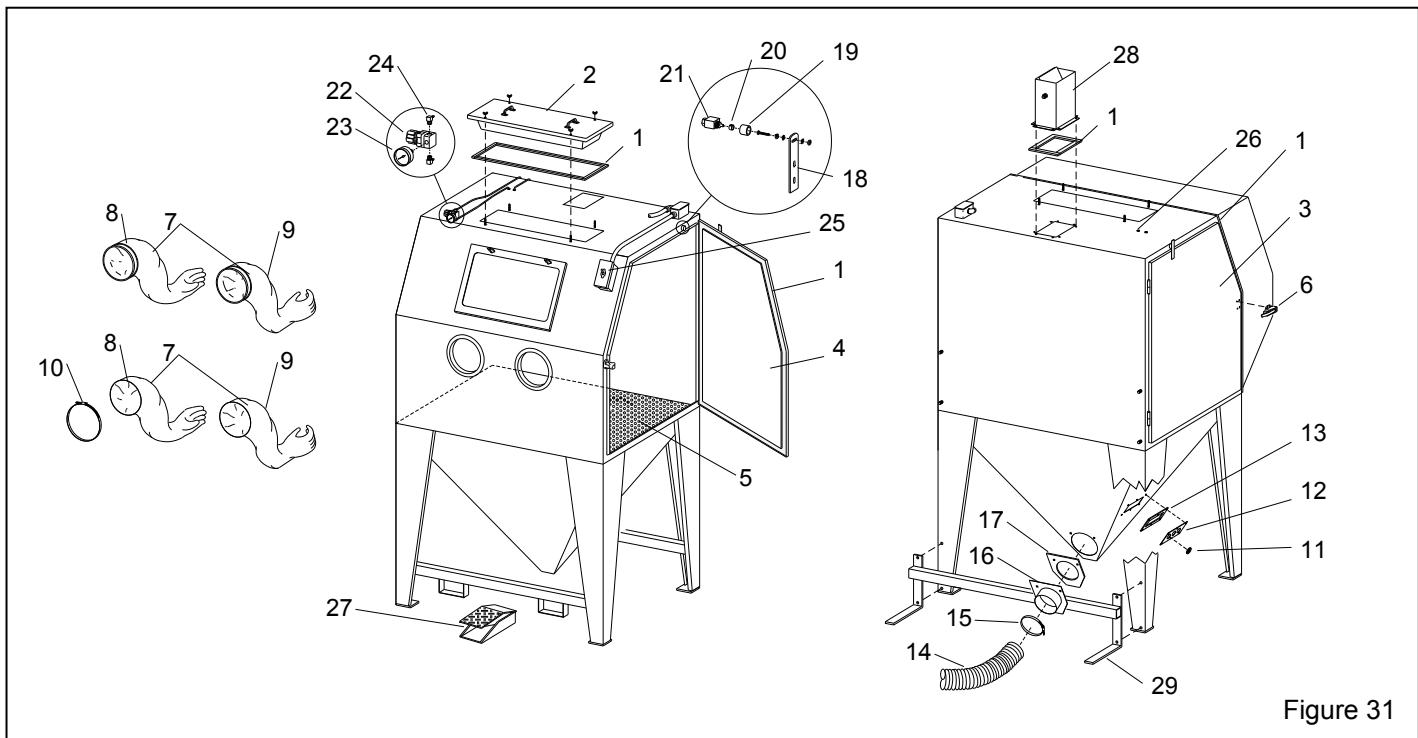

Figure 31
9.2 Cabinet Replacement Parts, Figure 31